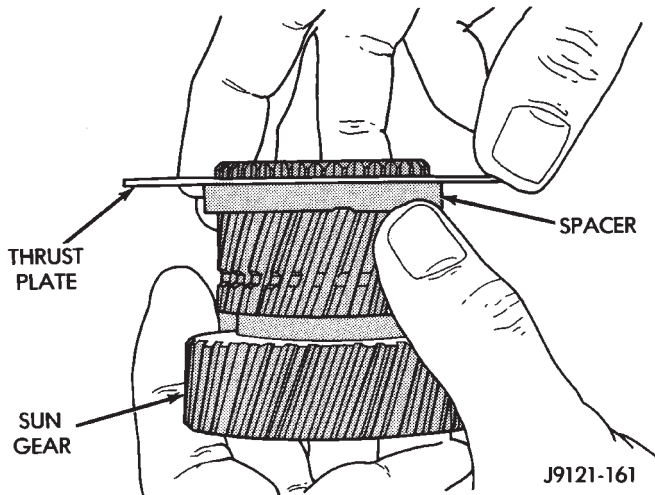

Fig. 180 Installing Driving Shell Front Thrust Plate On Sun Gear
(8) Install thrust plate on sun gear (Fig. 180). Note that driving shell thrust plates are interchangeable. Use either plate on sun gear and at front/rear of shell.